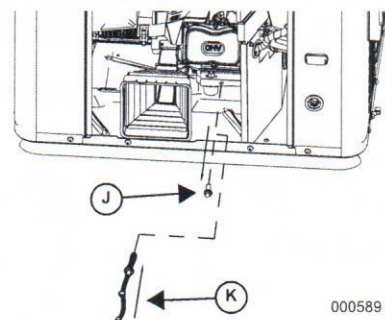

Figure 3.
8. Remove the rear drain plug (J) from unit and install block heater (K) provided. (See Figure 3).